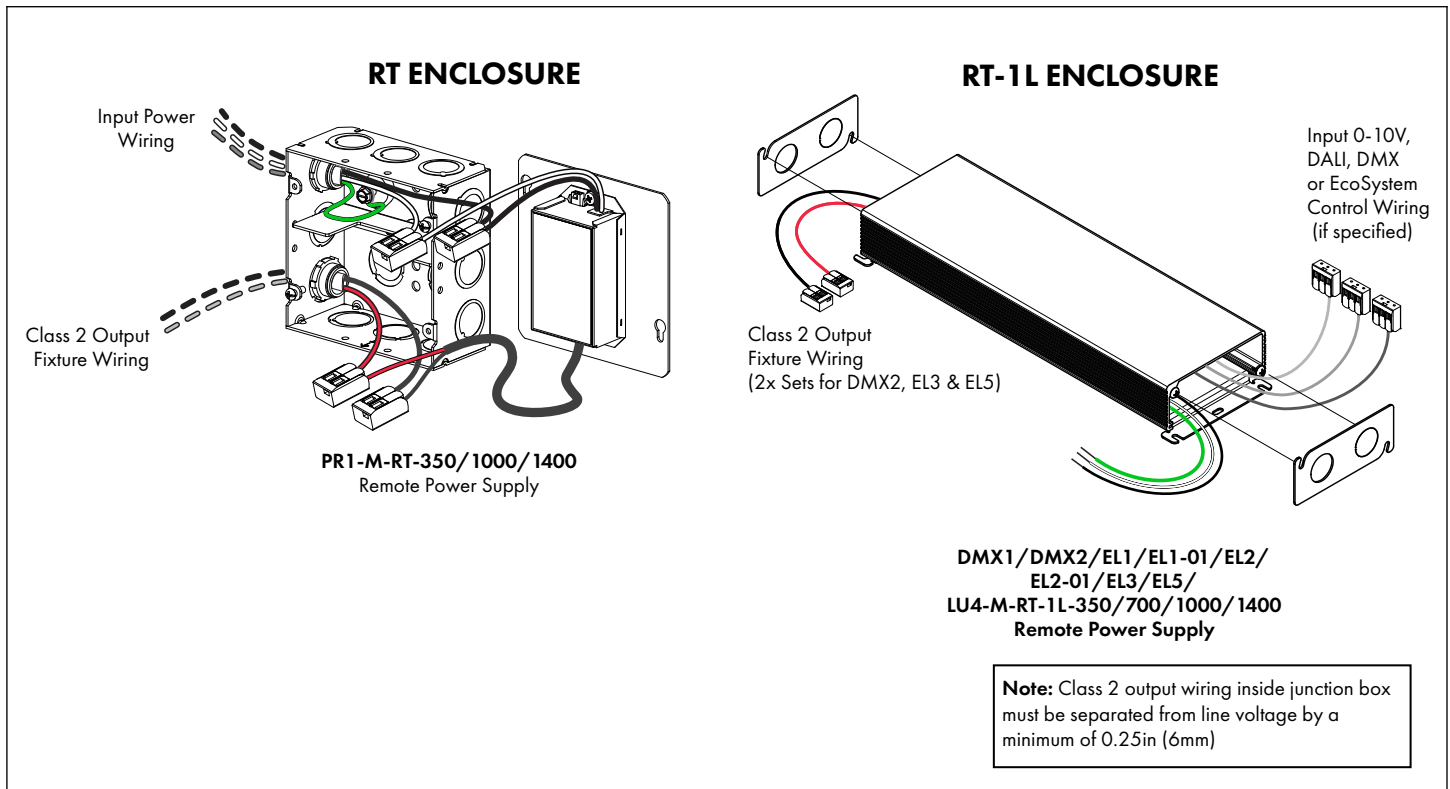

FIG 4.1 Wire & Install Remote Power Supply
STEP 1 Verify correct power supply model (see label on cover plate), LED type (see label on fixture), wire length and gauge (see chart below) and input requirements (see label on driver) - **FIG 4.1 & 4.2.**
STEP 2 Install & wire remote power supply (RT & RT-1L) - **FIG 4.1** & Wiring Diagrams on **Pages 5-8.**
STEP 3 Connect fixture supply wires to Class 2 wiring - **FIG 4.1.**
STEP 4 Push fixture supply connections completely behind Cover or End Caps - **FIG 4.1**